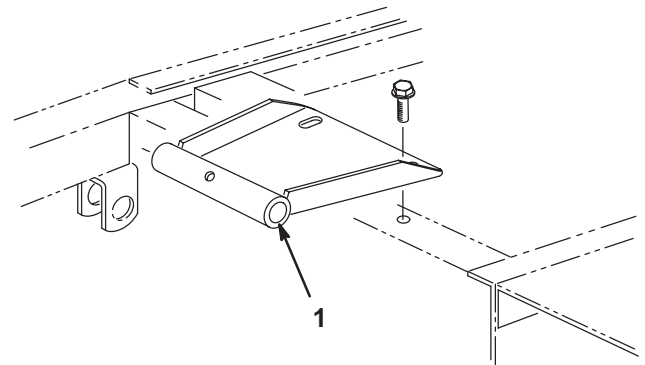

Figure 8
- Mount seat pivot bracket to frame with 2 flange screws supplied in kit (Fig. 8)